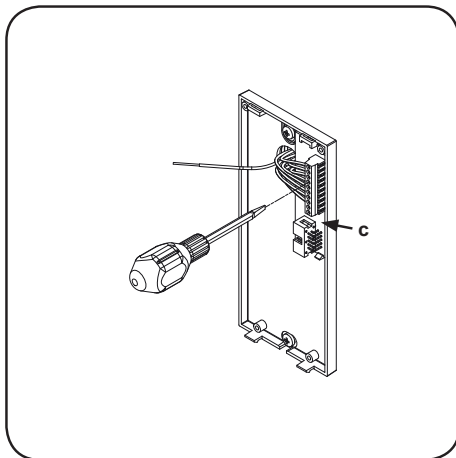

Fig.4
- Using a flat blade screwdriver connect the wires to the pcb connection board "c" as shown in Figure 4, according to the installation diagram provided.